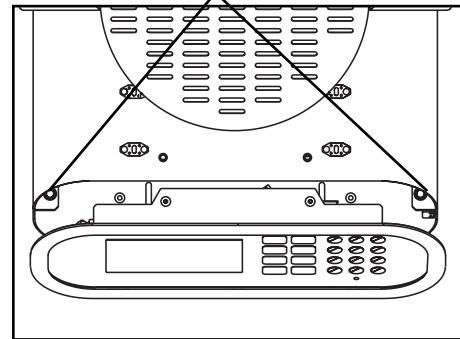

Fig 2F
8. Loosen the 2 captive screws from the inside of the cover. Fig. 2F